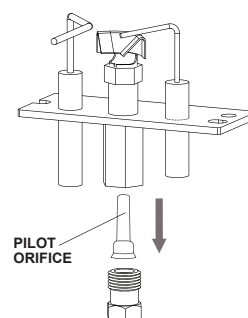

FIG. 4
- ☐ 7. Remove the two (2) screws securing the pilot in place. (**NOTE: you will need to bend the pilot shield up to be able to remove the screws [Fig. 1]**). Using a backup wrench, remove the pilot tube from the bottom-side of the pilot (**Fig. 4**). Remove the pilot orifice and replace with the one supplied. Reattach the pilot tube and pilot assembly.